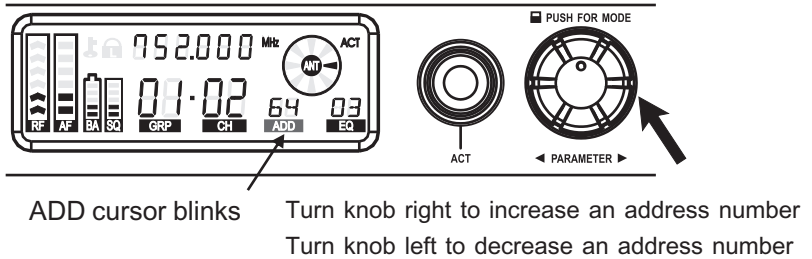

Fig. 20
- (1) Press knob to EQ cursor. EQ cursor blinks to denote it is ready to accept parameter changes.
- (2) Turn knob right to increase or left to decrease a number.
- (3) First digit F and 0 will be displayed during knob turning. F denotes anti-feedback feature is activated. 0 denotes anti-feedback feature is not activated.
- (4) Preset EQs enable usage of the same microphone capsule for different equalization to suit artists' preferences and stages.
- (5) EQ will automatically be set to EQ-09 when interfaced with a PC computer. Receiver will transfer the 32 parameters to EQ-09 from PC computer.
(F) PC ADDRESS Setting, Fig. 20: